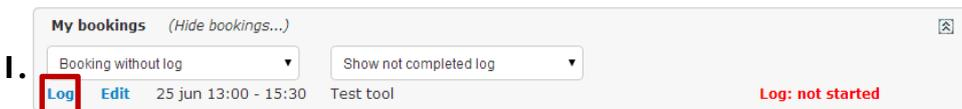

Fig. 10
To write a log entry: go to the start page, look at the *Booked tools* pane, and click *Log* by a recent session (1) as shown in Fig. 10.